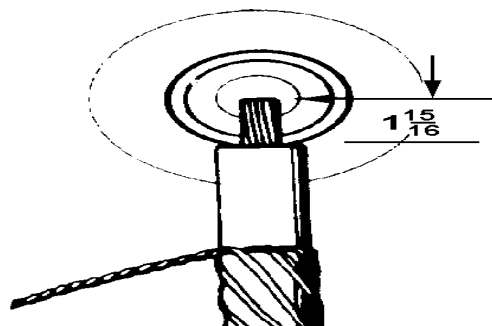

Figure 4, 1-15/16" Of Insulation And Jacket Removed From Conductor
- Remove 1-15/16" of insulation and jacket from conductor (Figure 4).